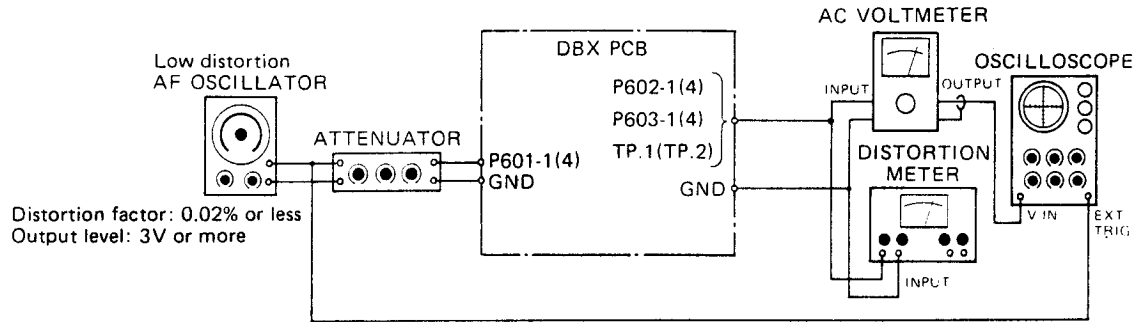

Fig. 3-12 Connection for decoder adjustment
1. Disconnect wires (with connector) from connectors P601 ~ P603, then make connections shown on Fig. 3-12. (Each connector's pin 1 and pin 4 correspond L-ch and R-ch respectively.